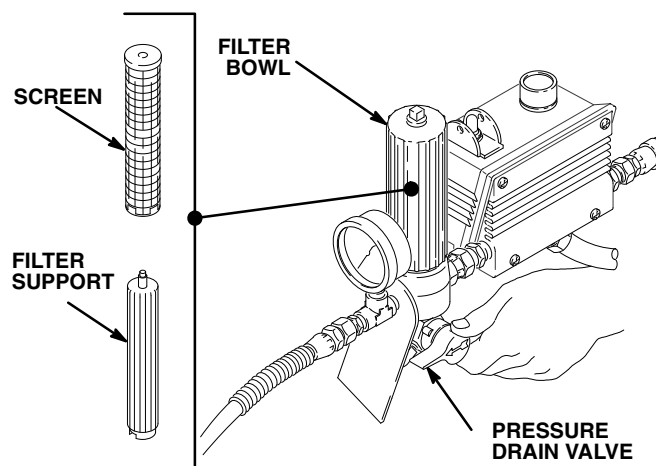

Fig. 8
- Remove the spray tip from the gun. Remove the filter bowl and screen; see manual 307–273. Clean the screen separately and install the bowl without the screen to flush it. See Fig. 8.